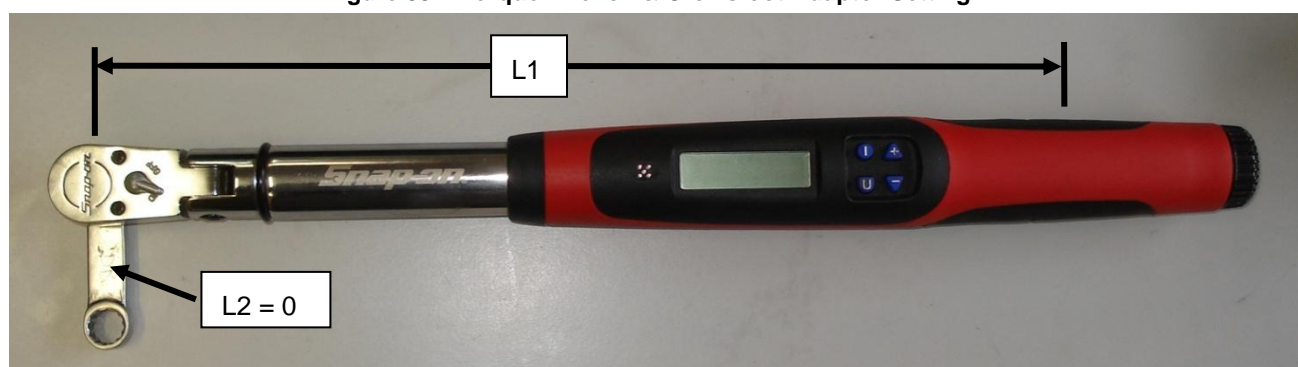

Figure 40 – Torque Wrench & Crowsfoot Adaptor Setting 2
- If the extension is oriented at 90° to the wrench as shown in Figure 40 then no correction is needed because L2 is zero.